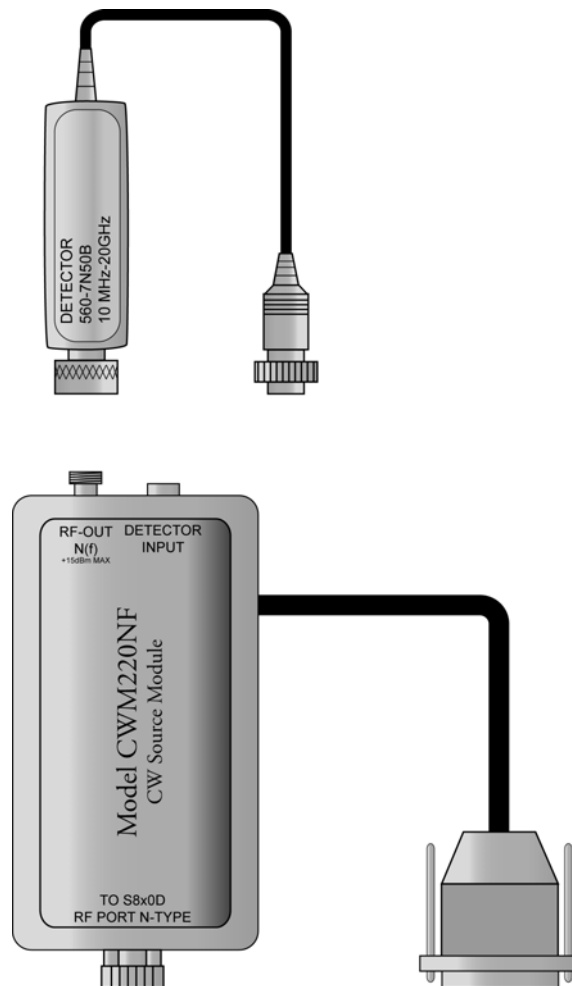

Figure 2-6. CW Source Module (CWM220NF) and RF Detector (560-7N50B)
- CW Source Module, Anritsu CWM220NF (shown below in Figure 2-6) or Anritsu CWM220SF.
- RF Detector, Anritsu 560-7N50B RF Detector (shown below in Figure 2-6) or Anritsu 560-7S50B.